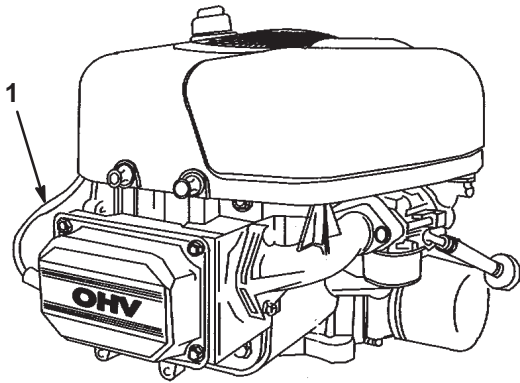

Figure 22
2. Pull the wire off of the spark plug (Fig. 22). Clean around the spark plug to prevent dirt from falling into the engine and potentially causing damage.
3. Push the wire onto the spark plug (Fig. 22).